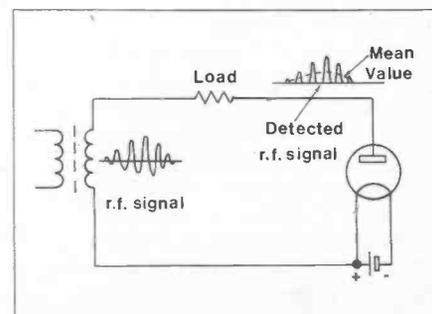

Figure 3. Detection of r.f. wave with diode valve.
receiver, it is only necessary to imagine that the anode supply is not a battery (DC), but is a high frequency oscillation (AC). The anode is now alternately positive and negative on each successive half-cycle of the r.f., and since anode current only flows on positive half-cycles, the alternating signal is converted to a unidirectional output (Figure 3). Furthermore, since the strength of the anode current depends upon the potential on the anode, strong signals would produce large anode currents and weak signals, small ones.